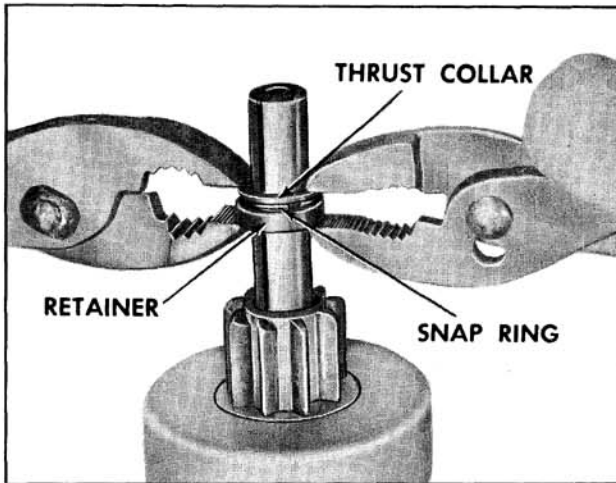

Fig. 13-57 Installing Retainer and Snap Ring
- f. Position retainer and thrust collar next to snap ring. Using two pliers, grip retainer and thrust collar and squeeze until snap ring is forced into retainer and is held securely in groove in armature shaft. (Fig. 13-57)